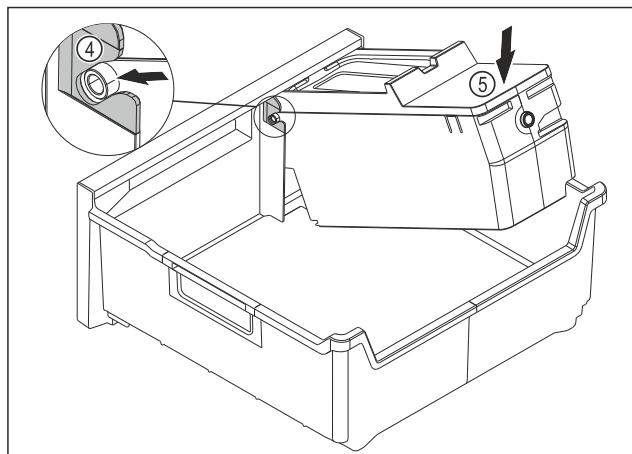

Fig. 90
- ▶ Installing the EasyTwist-Ice body: Push the axes for the EasyTwist-Ice body into the guides Fig. 90 (4).
- ▶ Press the EasyTwist-Ice body Fig. 90 (5) down at the back.